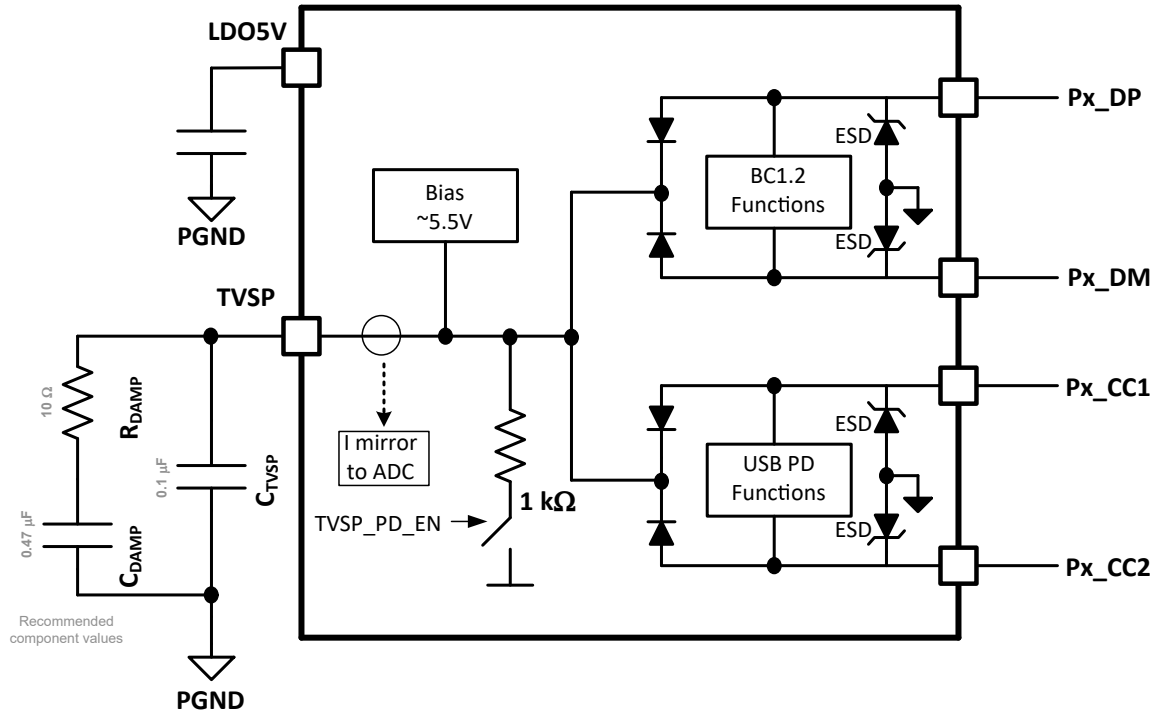

Figure 9-4. Basic TVSP Pin Connection
- **R_{TVSP} :** At power on, the resistance between the TVSP pin and PGND determines the boot method, USB PD port I²C addresses and I²C logic thresholds. Refer to Table 9-3 and Table 9-4. The most common configuration is shown in Figure 9-4 with R_{TVSP} open, corresponding to TVSP Index 0. During device initialization and boot, typically within 4 seconds after power on, V_{IN} must be above 7.6 V to ensure proper bias of the TVSP pin to 5.5 V. Once boot is complete the device can operate over the full V_{IN} range.